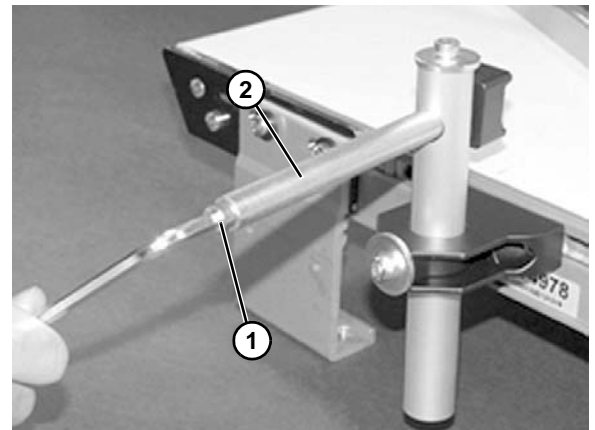
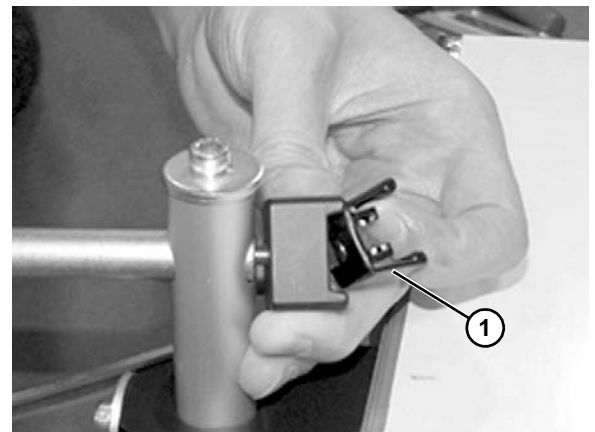
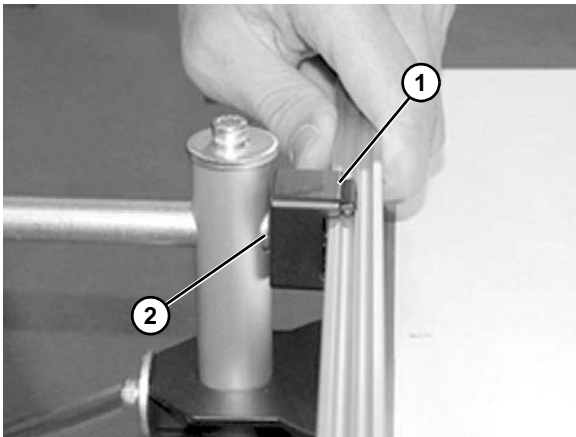

Figure 37
Figure 38
Figure 40
3. Loosen screw (**Figure 37, item 1**) on end of shaft (**Figure 37, item 2**) to remove clip (**Figure 38, item 1**).
5. Reassemble clip (**Figure 40, item 1**) and attach to shaft (**Figure 40, item 2**). Tighten screw (**Figure 37, item 1**) on end of shaft.